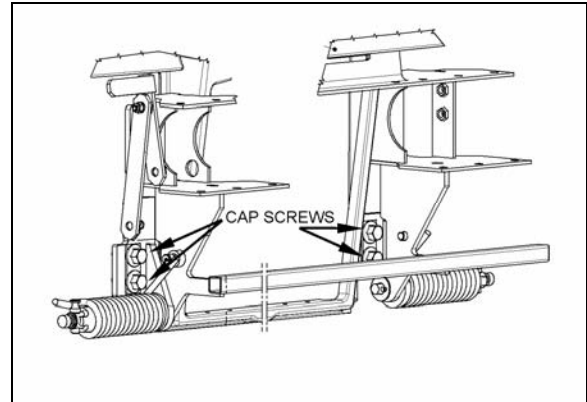

FIGURE 11: FRONT BUMPER ASSEMBLY
2. Remove 4 cap screws holding bumper to vehicle and remove bumper (Fig. 11).